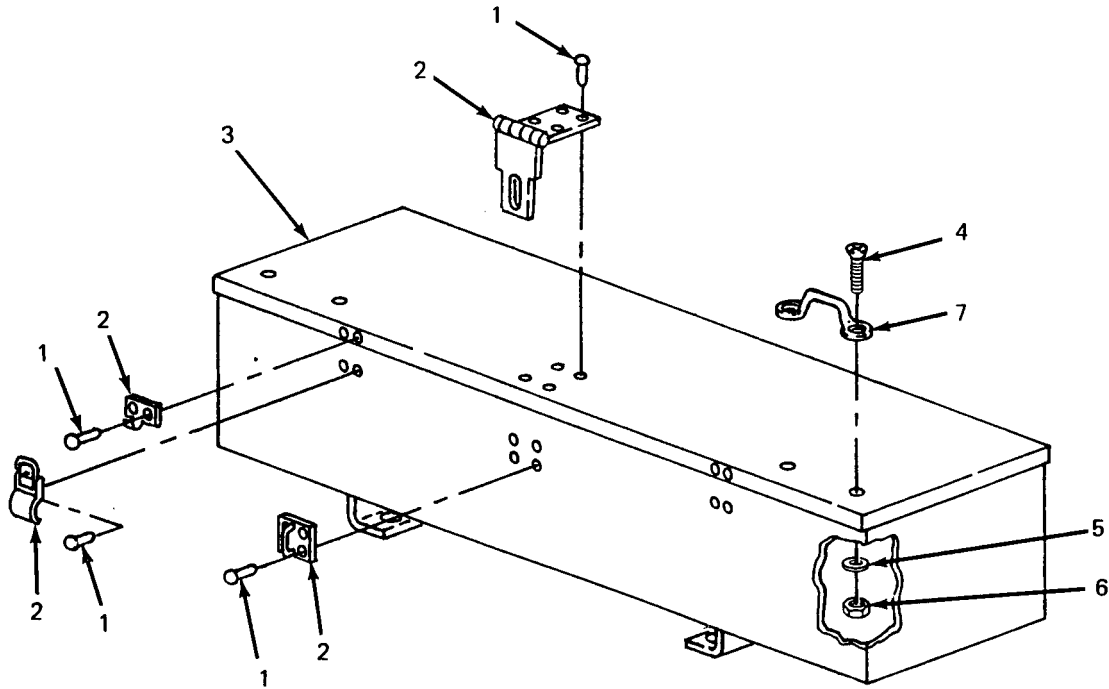

Figure 5-4. Accessory Box Repair.
- (8) Position two generator set mounting rails (12) on trailer body (13). Insert eight screws (9) with eight flat washers (10) through each mounting rail and through trailer bed and frame (22).
- (9) Working under trailer, install one flat washer (10) and one nut (11) on each of 16 mounting rail screws (9) and tighten.
- (10) Position one composite light (5) on each rear mounting bracket (8) and secure each light with two screws (6) and two lockwashers (7).
- (11) Working under trailer, connect one composite light cable assembly (3) to each composite light (5) by plugging four cable assembly connectors into four composite light connectors (4). Plug four connectors at opposite end of each cable assembly into four connectors (1) on trailer main wiring harness (2).
- (12) Install both generator sets (paragraph 5-7, b.).
- (13) Install switch box (paragraph 4-24, b.).
- (14) Install accessory box (paragraph 4-19, b.).
- (15) Install six bows (paragraph 3-11, b(2)).
- (16) Install fitted cover (paragraph 3-11, a(2)).
**5-5. Accessory Box Repair.** (See figure 5-4.) The accessory box is repaired by replacing the hasp, the catches and the footmans loops, as required. The box itself maybe straightened, welded, and repainted. If required, repaint in accordance with MIL-T-704, Type F, color Green, No. 383 of MIL-C-46168.
- (1) Grind off or drill out solid rivets (1) securing catch or hasp (2) to accessory box (3).
- (2) Position new catch or hasp (2) on accessory box and secure with solid rivets (1).
- (3) Touch up with paint as required.